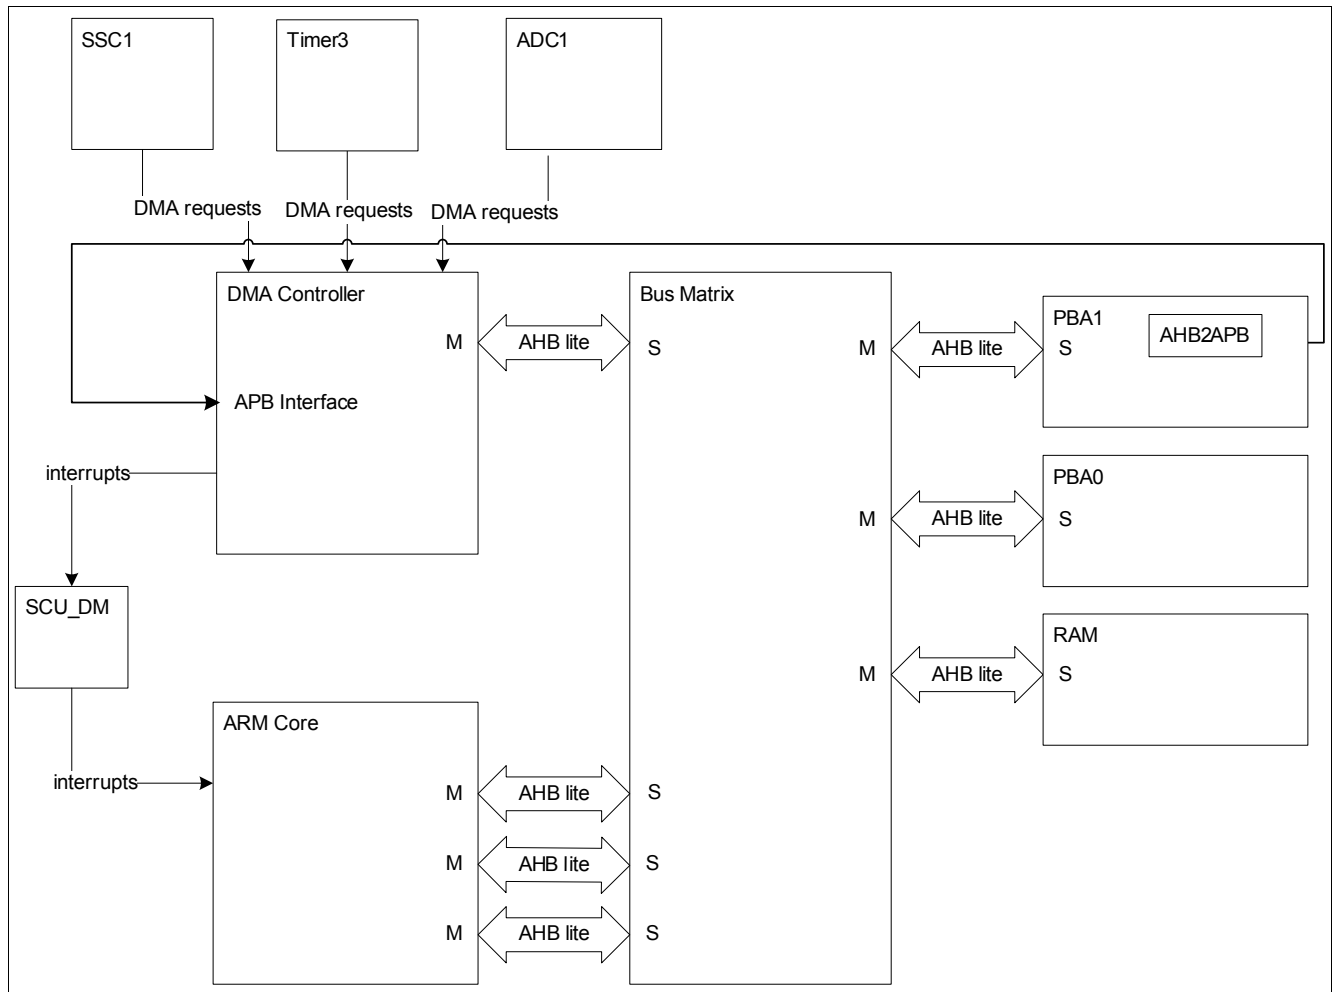

Figure 13 DMA Controller Top Level Block Diagram
**Figure 13** shows the Top Level Block Diagram of the TLE9879-2QXA40.